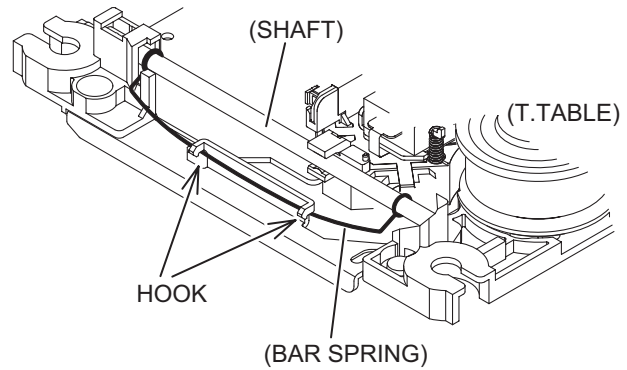

Fig.11
When remove the lead screw, do not loss the middle gear. (See Fig.11 and 12)
- (4) Remove the bar spring pressing the shaft. (See Fig.11)